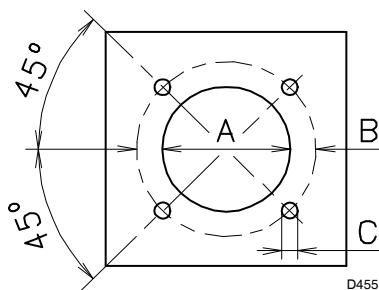

Fig. 5
5.3 Boiler plate (Fig. 5)
Drill the combustion chamber locking plate as shown in (Fig. 5). The position of the threaded holes can be marked using the thermal screen supplied with the burner.